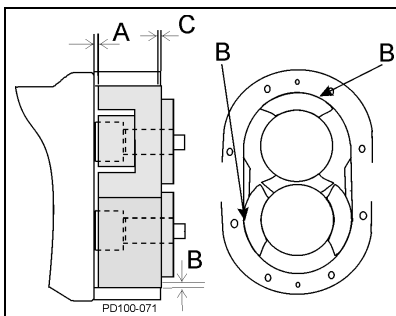

Figure 55 - Measure Clearance
- Measure rotor backface clearance (Figure 55, item A) through the port or from the front. Backface clearance for both rotors must be the same to prevent rotor crossover contact and must be $\pm .0005$ " of value found on "Standard Rotor Clearance" on page 30.
- Check rotor front face clearance (Figure 55, item B).
- Check rotor to body clearance (Figure 55, item C).